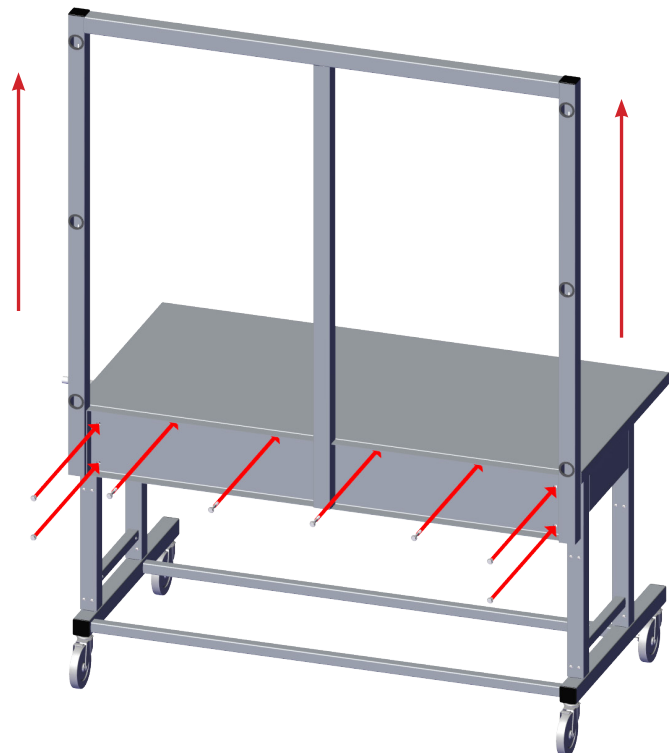

Fig. 2: Raise and secure back frame to table
plate holes with the table bolt holes. (Fig. 2).
12. Insert the bolts and washers through the back frame mounting plate holes (two bolts at each end and four bolts along top edge) and tighten (Figs. 2).